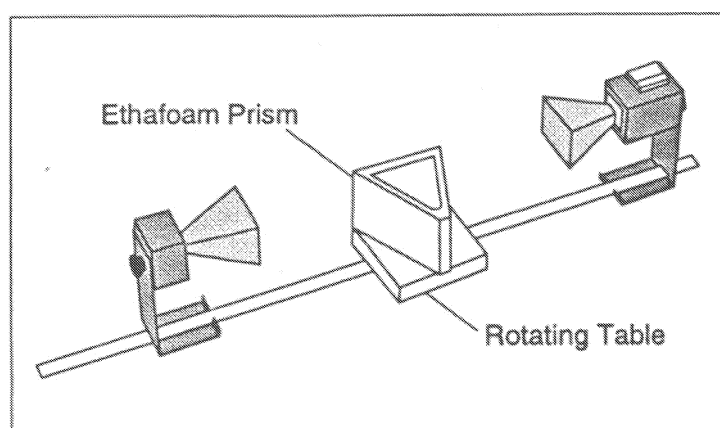

Figure 4: Refractive index of styrene.
6. Arrange the transmitter and receiver on the goniometer directly facing each other at a distance of about 60 cm. Place the rotating table on the goniometer degree plate. Place the foam prism on the rotating table. See Figure 4. Set the receiver controls to give a near full scale reading. Rotate the empty prism mold.